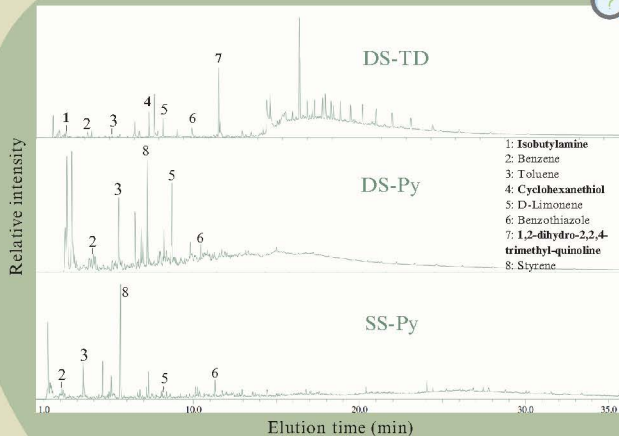

Figure 1. Total ion chromatograms of tyre rubber (tread). The numbered peaks are examples of the common compounds detected in tyres.
- Single-shot (SS) Py-GC/MS involves pyrolysis at a set temperature
- Double-shot (DS) Py-GC/MS involves thermal desorption (TD) followed by pyrolysis (Py)
- The DS-TD allows the detection of 3 additional additive compounds (Bold in Fig. 1)